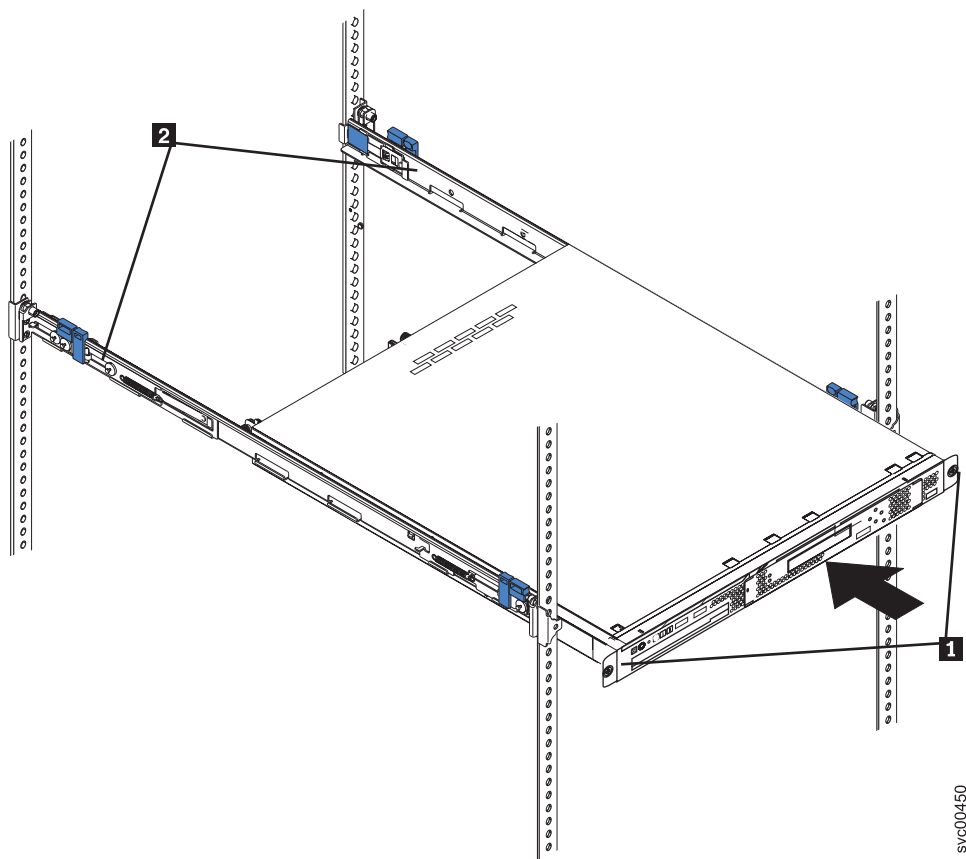

Figure 43. The captive thumbscrews that secure the node and the shipping brackets
2. Align the node on the slide rails and push the node fully into the rack. Secure the node to the front mounting flanges with the captive thumbscrews ( **1** in Figure 43 on page 53).